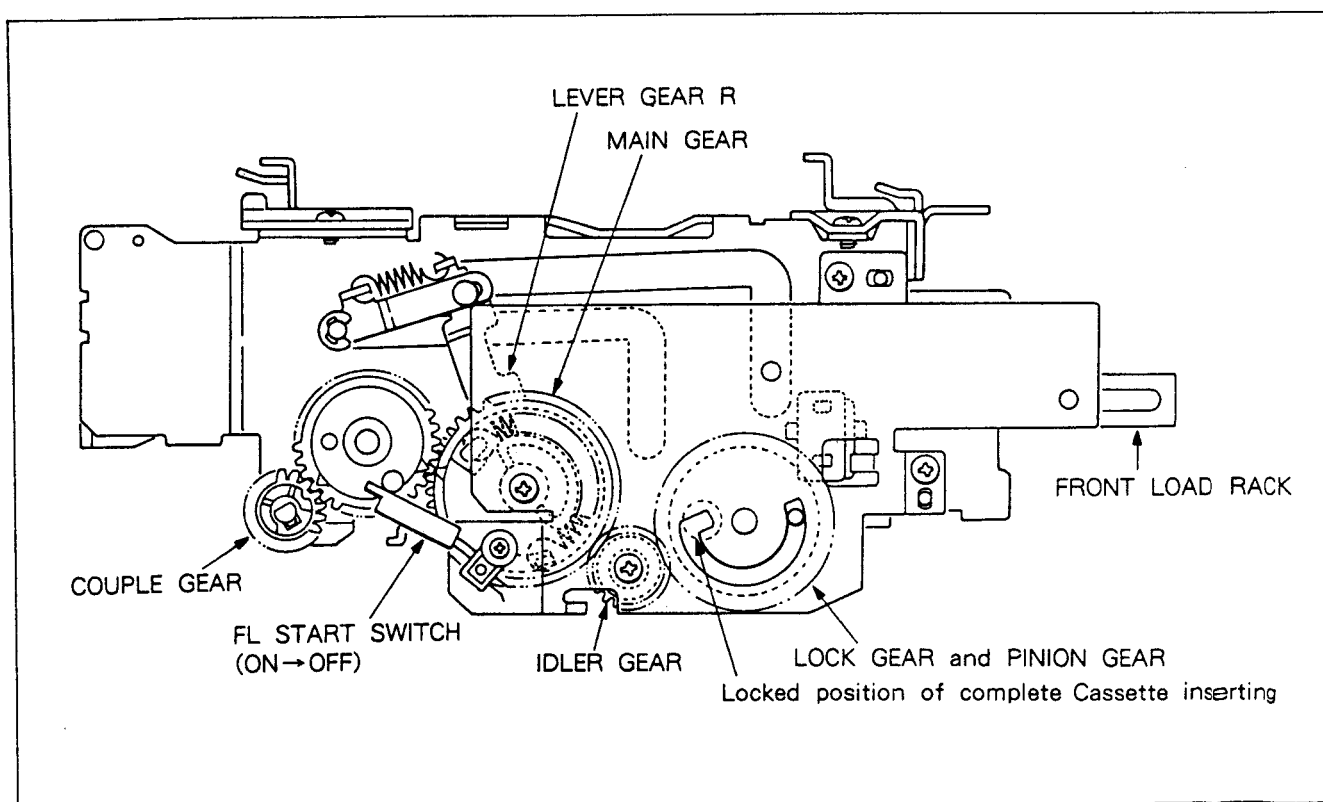

Fig. 1-15. Cassette Holder Mechanism (Cassette Inserting Operation)
When inserting a cassette from the cassette ejected state of Fig. 1-14 ⑥, the FL START SWITCH shown in Fig. 1-15 is turned OFF, to cause the loading motor to be rotated in the direction of insetting. As a result, the FRONT LOAD RACK is drawn in, and the front loading is made up to the cassette tape completion point. So, it is locked in the grooves shown in Fig. 1-15 to complete cassette inserting. At that time, the FRONT HELICAL GEAR is positioned at ③ of Fig. 1-14, and is released from the front loading mechanism, therefore, the tape loading operation is continuously performed.